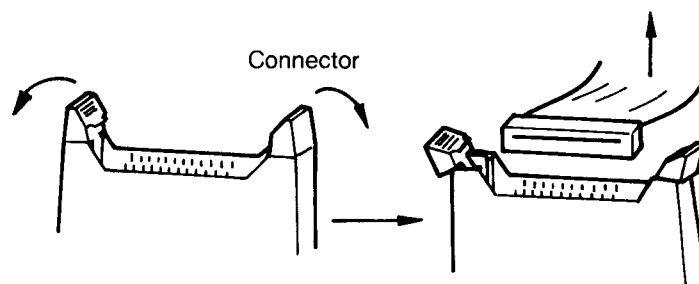

Figure 2-4. Cable Removal
- (6) Pull the claws of the Modem connector in the directions of arrows and remove the Modem Cable. (Figure 2-4)
(7) Remove the LCD connector in the same way as above.
(3) Remove the adhesive tape attaching the Power Switch cords onto the Power Source PCB Cover.
(4) Remove two FDD cable connectors from the rear of FDD's.
(5) Remove the following five connectors from the Main PCB in turn. (Figures 2-4, 2-15)